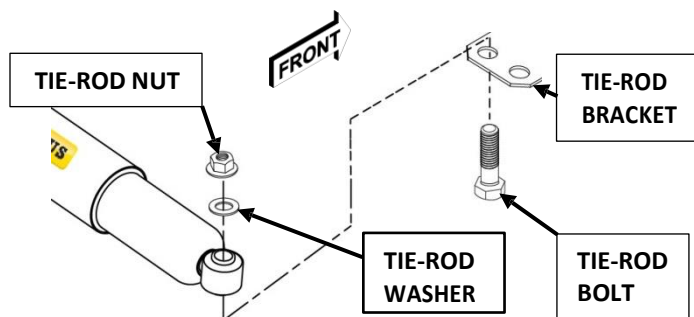

FIGURE 5. SAFE T PLUS INSTALL TO TIE-ROD BRACKET
7. With **Tie-Rod Bolt** threads facing up, loosely install small end of SAFE T PLUS® unit to the top of **Tie-Rod Bracket** with **Tie-Rod Bolt**, **Tie-Rod Washer**, and **Tie-Rod Nut** (Figure 5).
10. Torque **Tie Rod Bolt to Tie-Rod Bracket to 120-130 foot pounds** (*Figure 5*).